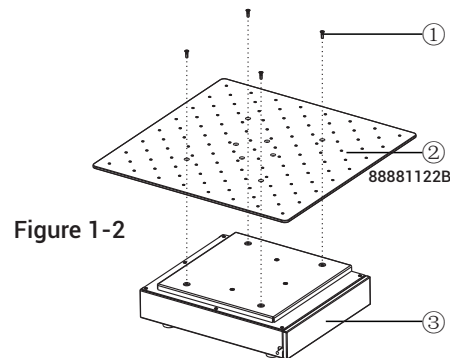

Figure 1-2
1. Place the instrument on a level and firm surface, it must be capable of supporting the weight and load of the instrument, and the impact force generated by the motion. Prepare related parts (see Figure 1-2).